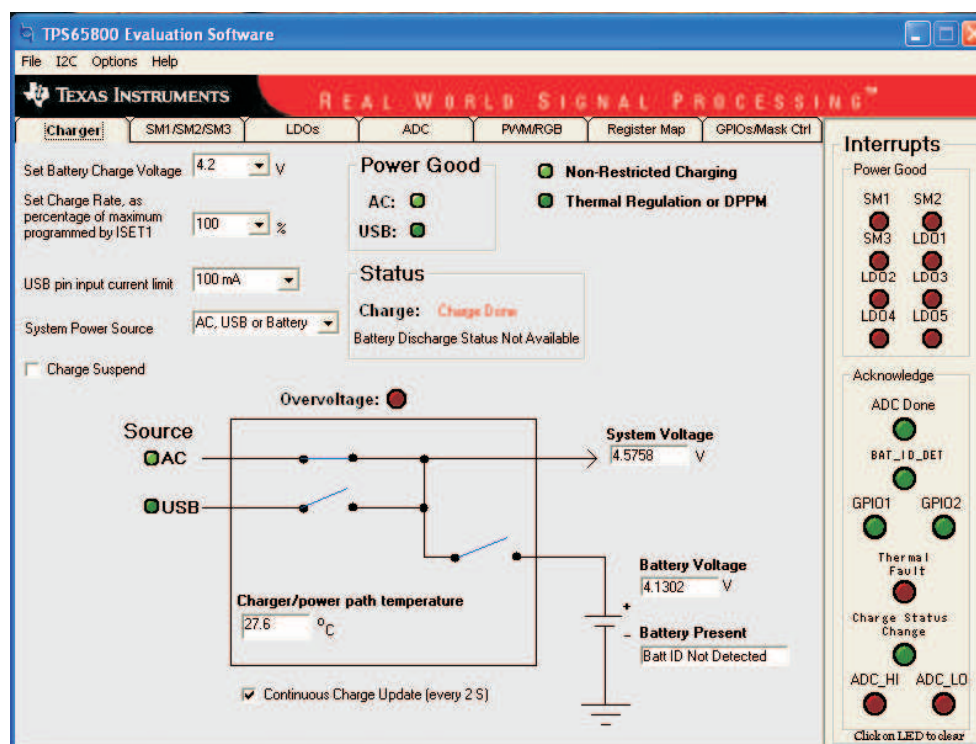

Figure 3. Charger Section
The charger section allows the user to monitor and control the charger functions of the TPS65800/810/820/825 (see Figure 3). The TPS65820/825 IC has a unique feature on power up. After the 150-ms USB boot-up, the PMIC defaults to battery power unless the CE pin is written high prior to the boot-up expiring. The CE pin is at address 9_B0 and is changed via I2C. If the battery is not present and CE is not written high prior to the end of the boot-up, then the system crashes because the BAT pin cannot supply the power. The following controls are available.
- Dynamic Power Path Management (DPPM) – Powers the system via AC, USB, and/or BAT (see the diagram in Figure 3).